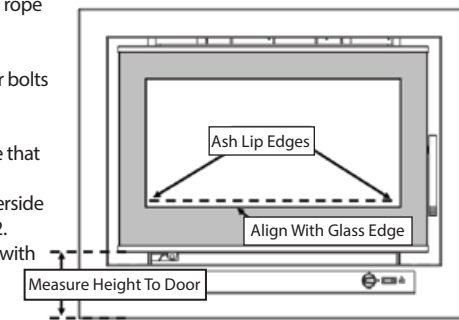

Figure 11-2
- Check the alignment of the door by measuring vertically from the underside of the door at each outer edge, to the base of the unit, as per figure 11-2.